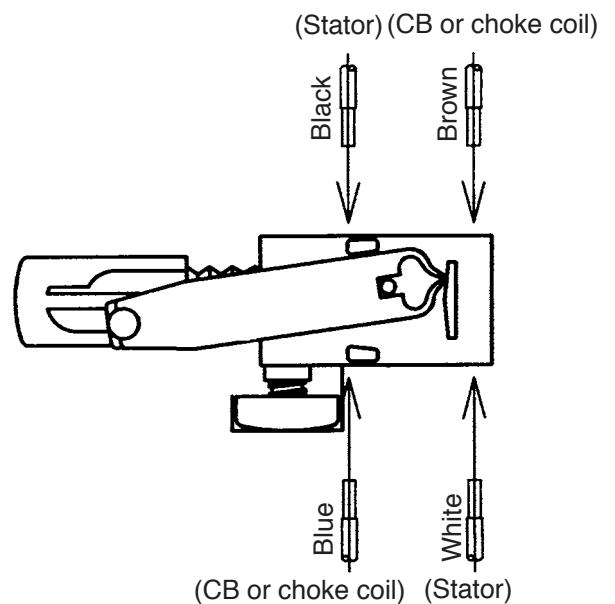

Fig. 26
Insert the lead wire (black) coming from the stator into the terminal (1) of the reversing switch, and the lead wire (white) into the terminal (2) as shown in Fig. 26.